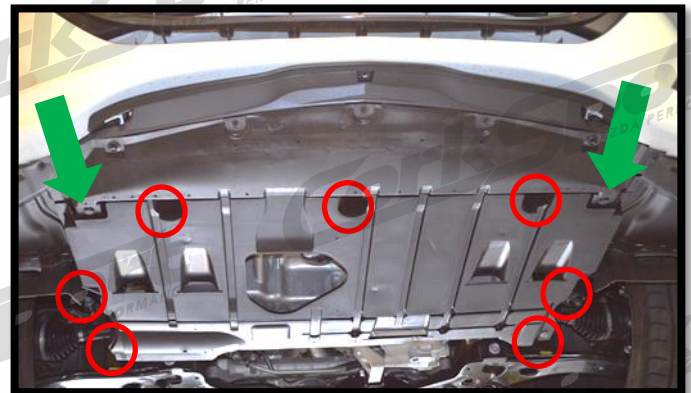

Figure 4a
- a) **Remove the splash tray.** Remove the seven (7) 10mm bolts and pry out the two (2) push clips with a flat blade screw driver (Figure 4a).
a) **Remove the splash tray.** Use a 10mm socket wrench to remove the seven (7) bolts (red circles) and pry out the two (2) push clips with a flat blade screw driver (green arrows in Figure 4a).
- h) Replace the skid tray. Tighten the seven (7) 10mm bolts and two (2) plastic push clips (Figure 4a).